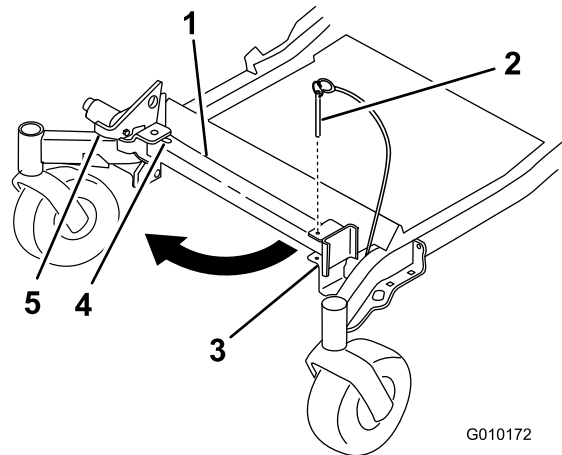
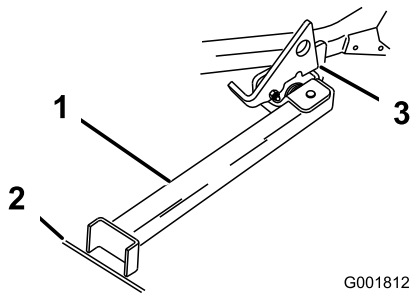

Figure 32
Figure 33
2. Remove the bracket pin (Figure 32).
3. Raise the latch. Swing the stand foot out front and slide stand toward machine, into the bottom of slot (Figure 32 and Figure 33).
4. Set the foot of stand on the ground and rest the latch on the pivot tab (Figure 33).
Note: For best results, place the foot of stand into seams in sidewalks or into the turf (Figure 33).
6. Drive onto the stand. Stop when the latch drops over the tab into the locked position (Figure 33). Once onto the stand, engage the parking brake and turn off the engine.